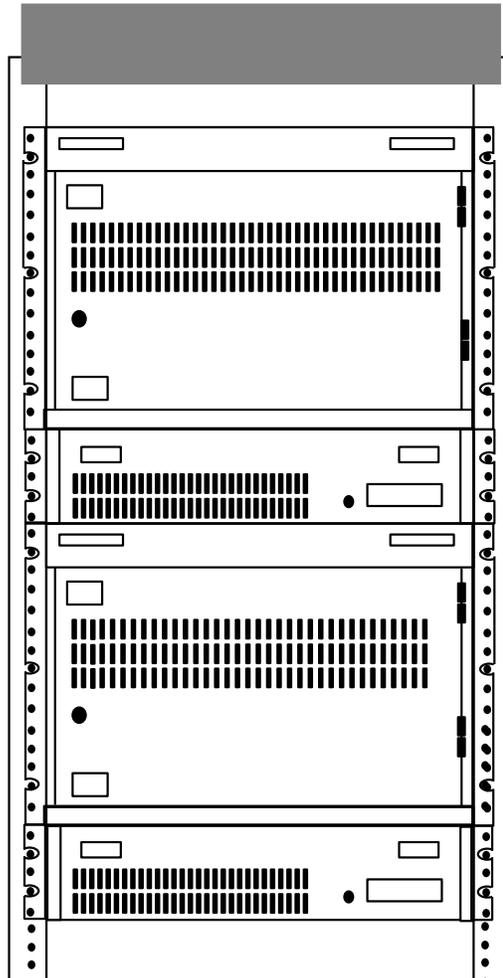

Figure 2-18. MAP/100C Units in a 5ESS Cabinet, Front View
1. Locate the left and right mounting ear brackets (A10039 and A10038) and attach them to the side plate of the unit as shown in Figure 2-18.
The 5ESS frame can hold one or two units, depending on the type of application (Figure 2-18).